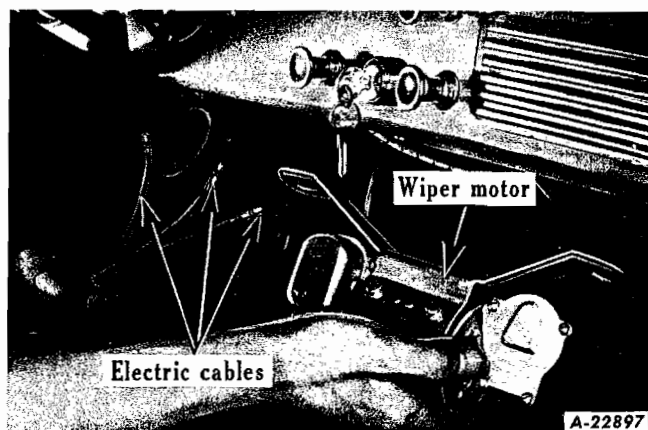

Fig. 84
6. Remove windshield wiper motor (Fig. 84).
7. Remove windshield wiper electrical cables (Fig. 84). The terminal posts on the windshield wiper motor are marked "F", "A",